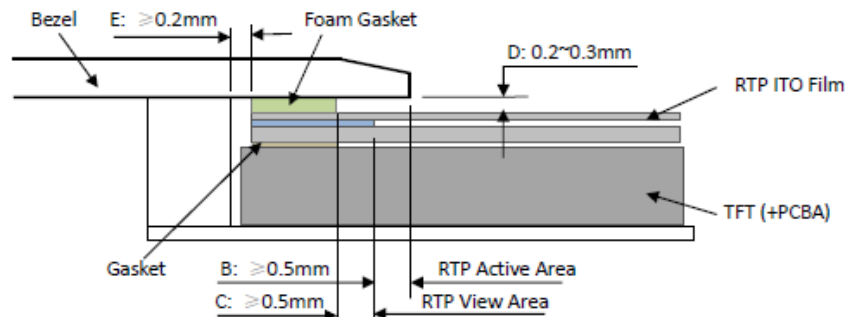

Figure 4
- It should bezel touching the RTP Active Area (A.A.) to prevent abnormal touch.It should left gab $D=0.2\sim 0.3\text{mm}$ in between. (Figure 4)
- Outer bezel design should take care about the area outside the A.A. Those areas contain circuit wires which is having different thickness. Touching those areas could de-form the ITO film. As a result bezel the ITO film be damaged and shorten its lifetime. It is suggested to protect those areas with gasket (between the bezel and RTP).The suggested figures are $B\geq 0.50\text{mm}$; $C\geq 0.50\text{mm}$. (Figure 4)
- The bezel side wall should keep space $E= 0.2 - 0.3\text{mm}$ from the RTP. (Figure 4)
为避免面框直接压在动作区(A.A.)上造成误动作，面框与电阻触摸屏(RTP)之间应留有一定的空隙 $D=0.2\sim 0.3\text{mm}$ 之间。(附图4)
设计面框时，要注意用面框保护触摸屏四周的非保证操作区域，因为布线区域在此处形成一台阶，在此区域附近操作时ITO Film变形较大，容易导致ITO损坏而降低寿命。为保护RTP和避免误操作，在RTP与面框之间垫缓冲物(Gasket)，我们建议设计面框应覆盖动作区的边缘，面框边缘到V.A.区的距离 $B\geq 0.50\text{mm}$ ；垫圈内边缘到V.A.区的距离 $C\geq 0.50\text{mm}$ 。(附图4)
在设计面框与RTP组装时，应考虑到面框内侧与RTP外侧的间距 $E\geq 0.2\text{mm}$ 。(附图4)